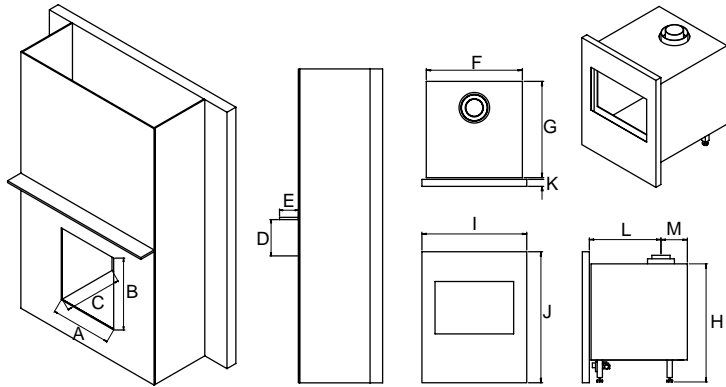

fig. 1
In a non-combustible fireplace or builders opening. This could be either an existing builders opening or a new made prefab builders opening. For the measurements, see figure 1 and index.
- For a shelf up to 150 mm deep – Minimum height = 350 mm (fig. 1).